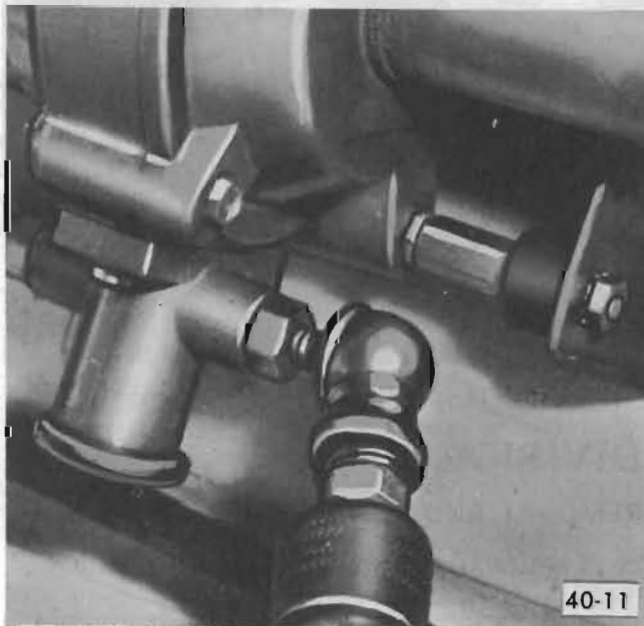

Figure 40-34 - Filling System Through Service Valve
3. Inflate system through service valve to maximum available pressure. See Figure 40-34.